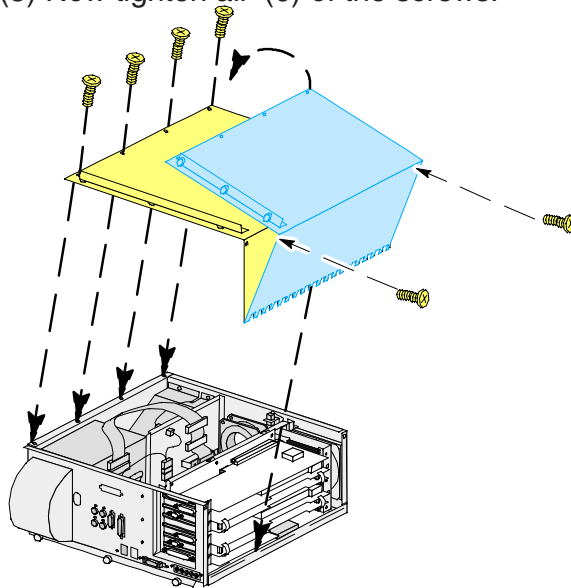

Figure 8-62 Indigo2 Chassis Cover Removal
- 1.) The Indigo2 chassis cover must be removed to access memory SIMMs. Remove the Indigo2 cover. Follow the instructions in Figure 8-62 by replacing the word “install” with “remove”, and reversing the sequence. By starting at step 5 and finishing with step 1.